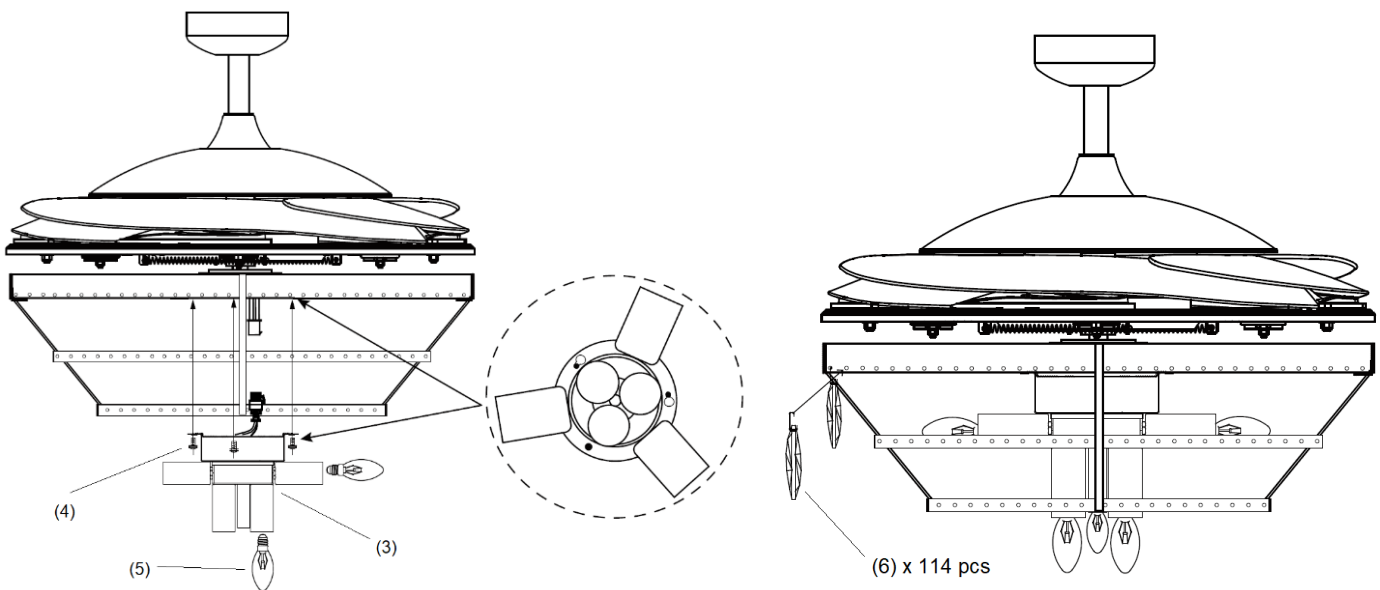

Fig. 7
4. Connect the quick connector to the lamp holder part (3). (Fig. 7)
5. Secure the lamp-holder part (3) to the light kit bracket by tightening the 3 screws (4). Do not over-tighten.
6. Install the globes (5) (Not included) to the lamp holders. Do not exceed the maximum power rating.
7. Install the decorative drops (6) to the light kit.